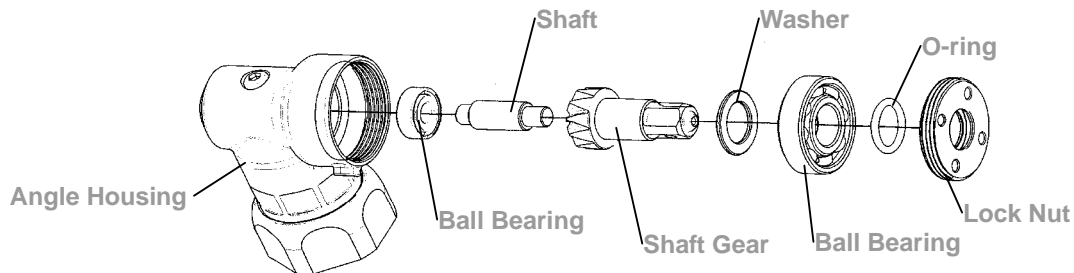

Fig. 439
(8) Angle Housing Unit Assembly:
- ① Assemble the parts in Fig. 439 one by one orderly into the angle housing. Then, fix the angle housing unit. Use the torque wrench and the appliance clockwise to tighten the lock nut of the shaft gear. See Table 64 in reference to the proper appliance selecting.